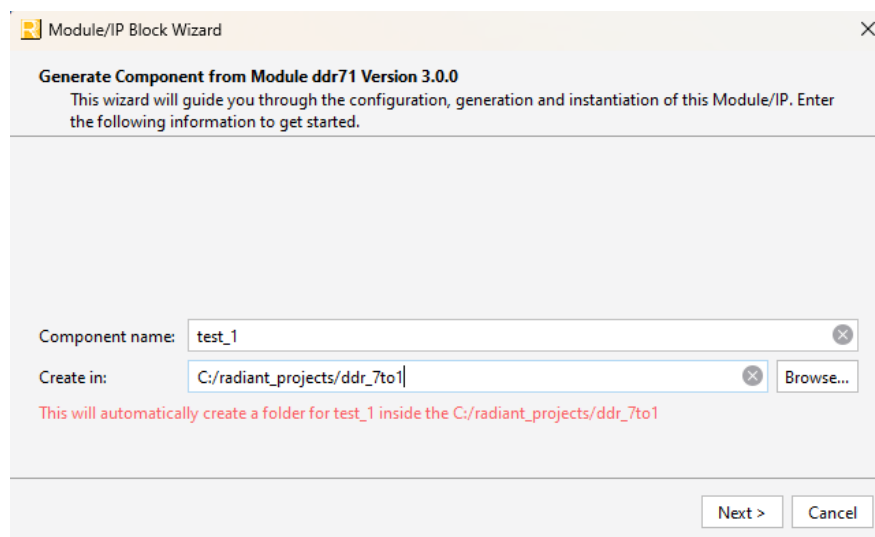

Figure 5.1. Module/IP Block Wizard
2. In the **IP Catalog** tab, double-click **GDDR 7:1** under **Architecture_Modules, IO** category. The **Module/IP Block Wizard** opens as shown in Figure 5.1. Enter values in the **Component name** and the **Create in** fields and click **Next**.
3. In the next **Module/IP Block Wizard** window, customize the selected GDDR 7:1 I/O Module using drop-down lists and fill up the values. Figure 5.1 shows an example configuration of the GDDR 7:1 Module.
- Click **Finish**. All the generated files are placed under the directory paths in the **Create in** and the **Component name** fields shown in Figure 5.1.